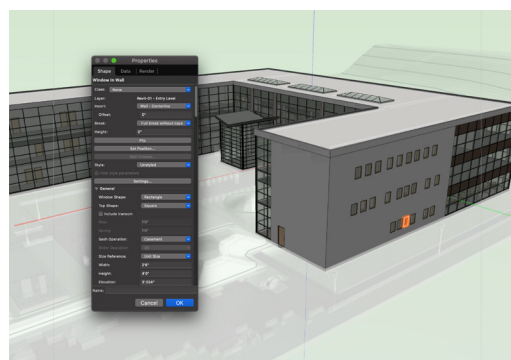

FIGURE 2: RVT window becomes Vectorworks window in wall.
5. Windows and doors import as custom window and door symbols and are properly placed in walls. **(Figure 2)**